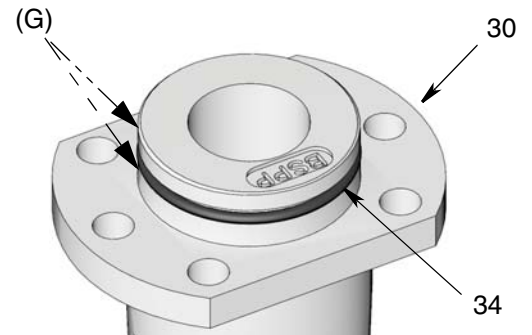

FIG. 11
14. Verify outlet o-ring (34) is in place on outlet (30). Apply a thin layer of grease (G) to o-ring as shown in FIG. 11.